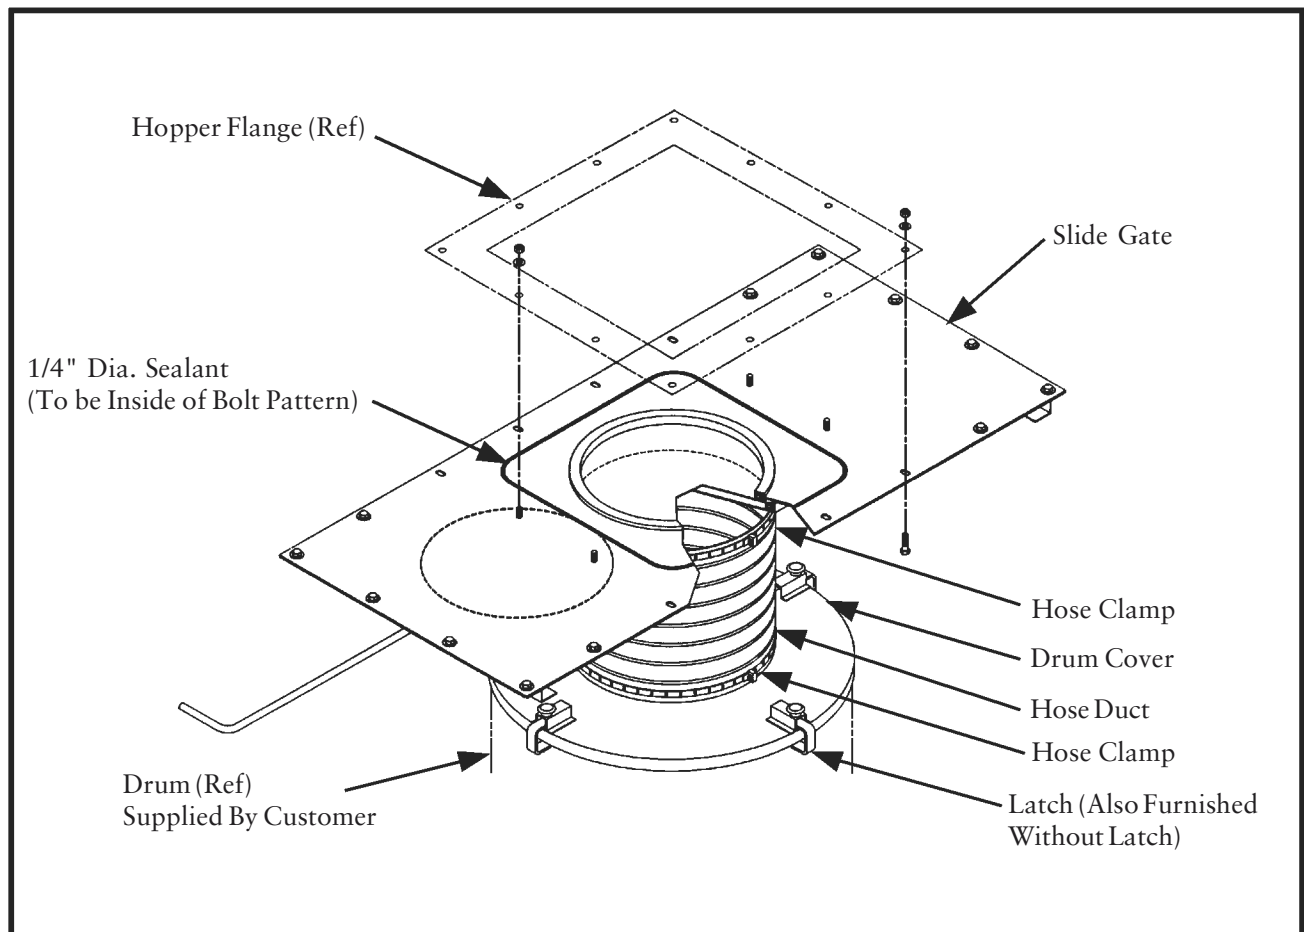
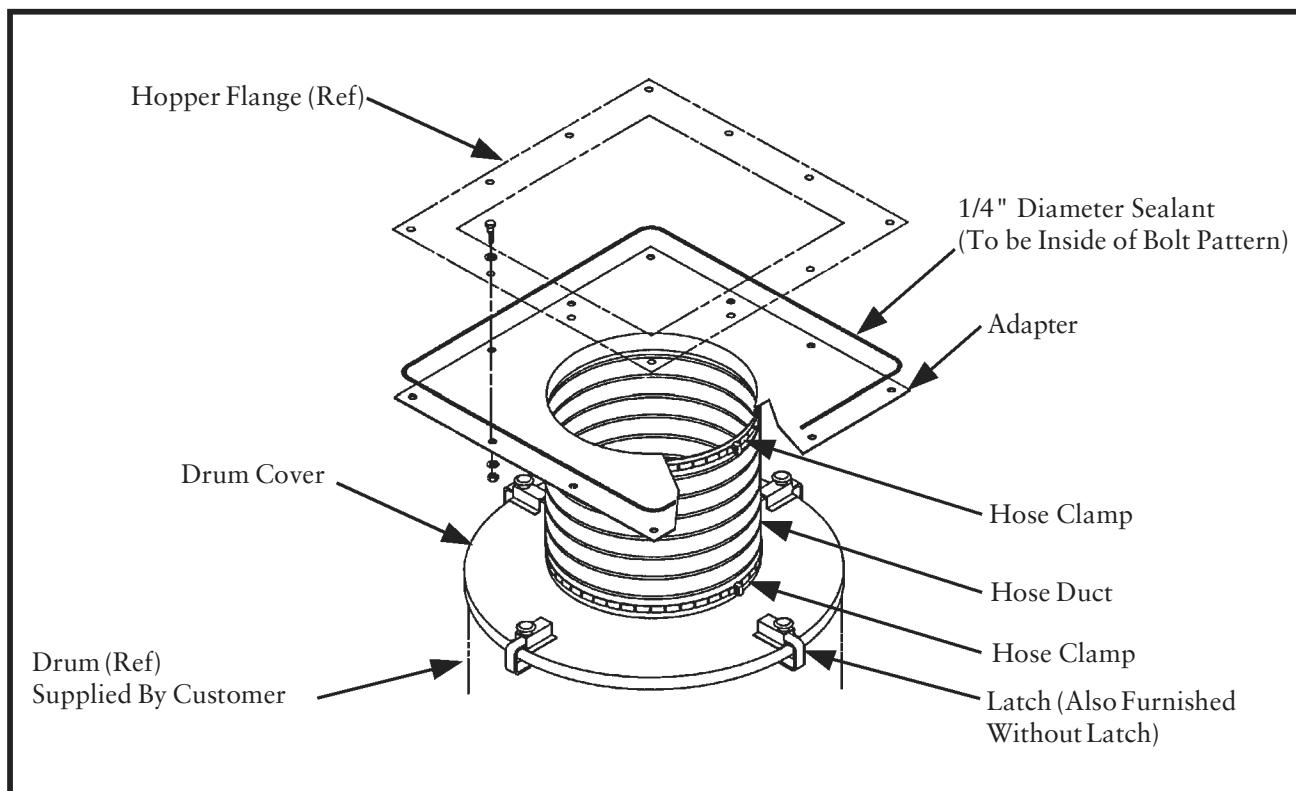

Figure 7
Figure 8
2.6.1 55-Gallon Drum Cover Pack With or Without Slide Gate (See Figures 7 and 8)
1. Apply 1/4" diameter sealant between the hopper flange and the slide gate as shown in Figure 7, Hose Drum Cover Pack with Gate or between the hopper flange and the adapter as shown in Figure 8, Hose Drum Cover Pack without Gate.
2. Fasten the drum cover pack and slide gate to the hopper flange using 3/8" bolts, washers, and nuts as shown in Figure 7, Hose Drum Cover Pack with Gate. Fasten the adapter to hopper flange, as shown in Figure 8, Hose Drum Cover Pack without Gate, if the slide gate is not included.